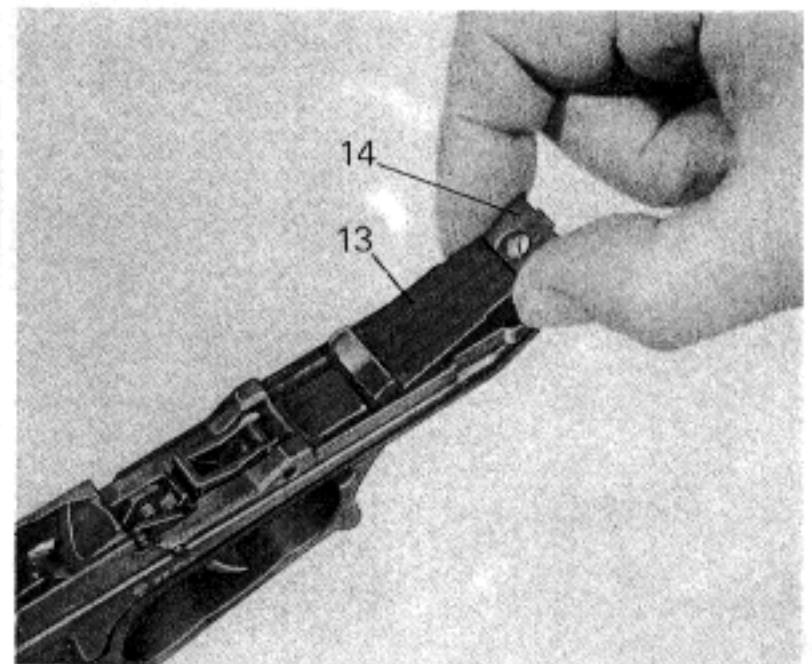

Fig. 36
- Insert elastic buffer (12) into the buffer housing (13).
- Place the support (14) onto the buffer housing and insert both components into the receiver (Fig. 36).